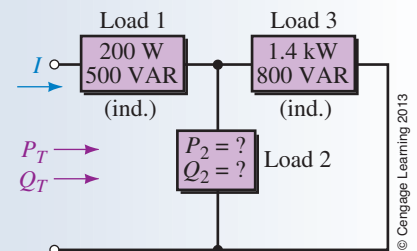

FIGURE 17-10
For the circuit of Figure 17-10, $P_T = 1.9 \text{ kW}$ and $Q_T = 900 \text{ VAR (ind.)}$. Determine P_2 and Q_2 .
2. Using numerical values as indicated with Figure 17-10,